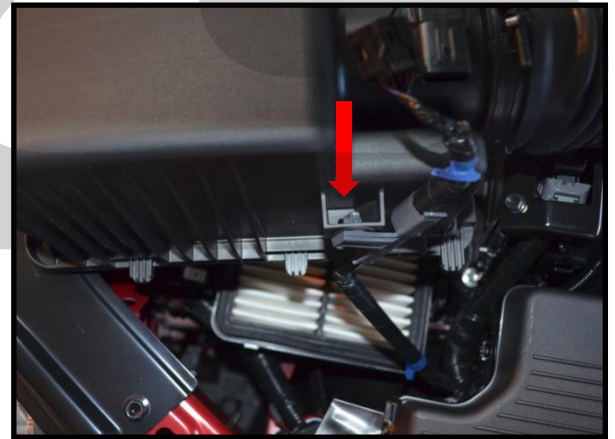

Figure 1g
h) **Remove two (2) 10mm bolts** that hold the lower air box (red circles in Figure 1g) and remove it from the car. Simply pull up.